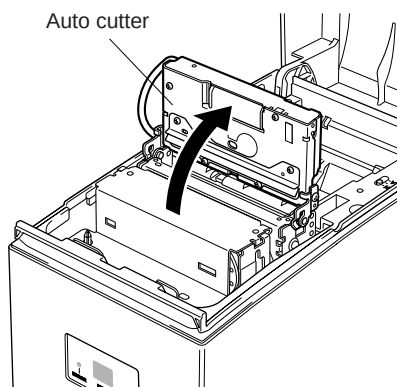

Fig. 5-9 Raise the auto cutter
- ③ Lift up the auto cutter and put it in a vertical position, as shown in Fig. 5-9.